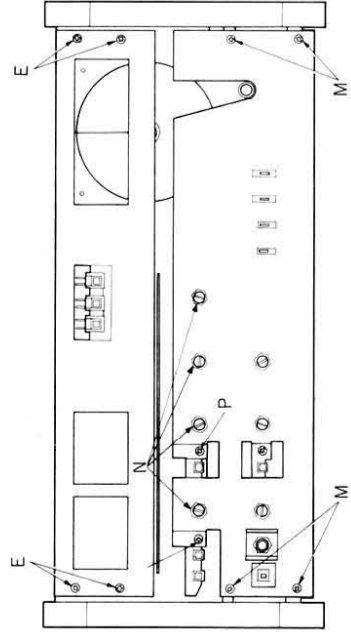

Fig. 5
- 1) Disassemble the aluminum inlay of the tuner section by removing the four screws indicated as E in Fig. 5.
- 2) Remove the four front chassis fixing screws (M in Fig. 5) of the preamplifier section.
- 3) Remove the three volume fixing nuts and the one Selector switch fixing nut (N of Fig. 5) of the front chassis section.
- 4) Take off the two switch assembly screws (P of Fig. 5) of the front chassis section.